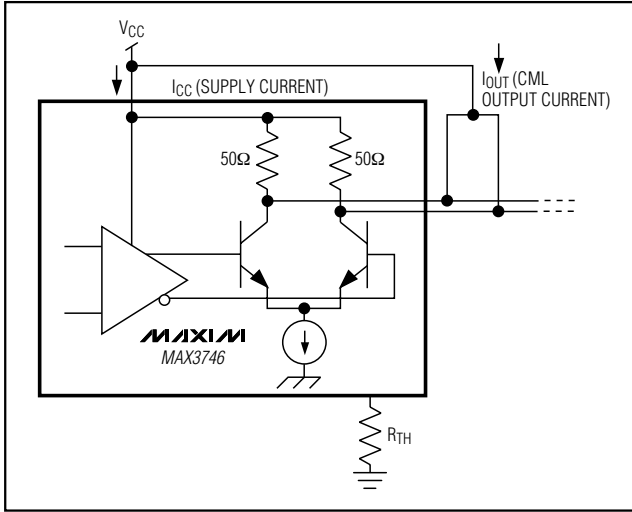

Figure 1. Power-Supply Current Measurement
- Note 5:** The supply current measurement excludes the CML output currents by connecting the CML outputs to a separate V_{CC} . (See Figure 1.)